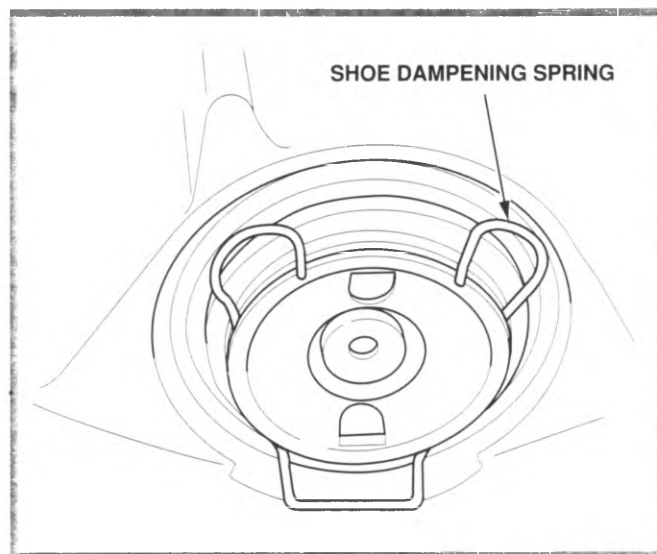

Figure 6-44, Install Shoe Vibration Dampening Spring
12. Install shoe vibration dampening spring in the groove at the end of the piston (figure 6-44). Move the parking brake lever if necessary. Install new pads. Reinstall caliper.